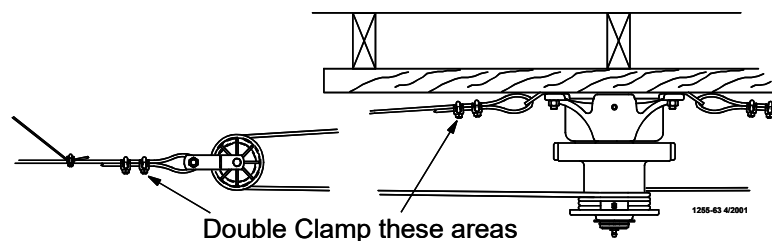

Figure 9. Double back arrangement for feed lines over 350' [107 m]
- Extend the 3/16" [5 mm] Main Winch Cable the full length of the feeder line. Attach the cable temporarily to the ceiling with nails, staples, or some type of fasteners. **Figure 9** shows a double back arrangement for feed lines over 350' [107 m]